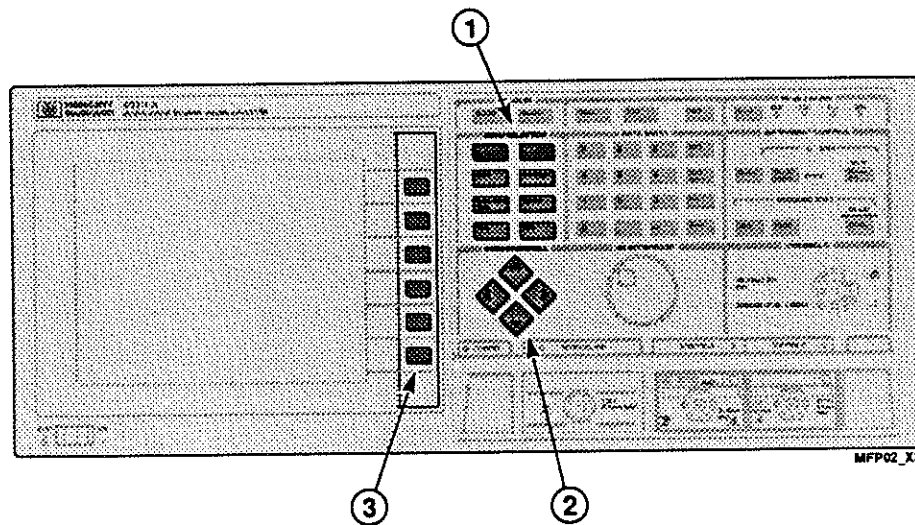

Figure 2-8. Three Steps to Change a Menu Parameter
There are three steps to change a menu parameter, as shown in *Figure 2-8*:
1. Select a menu with the Menu Selection hardkeys (callout 1 in *Figure 2-8*).
2. Use the Cursor/Scroll keys to move the menu cursor to the field you want to modify (callout 2 in *Figure 2-8*).
3. Use the softkeys to select the desired option from the list at the right-hand edge of the display (callout 3 in *Figure 2-8*).